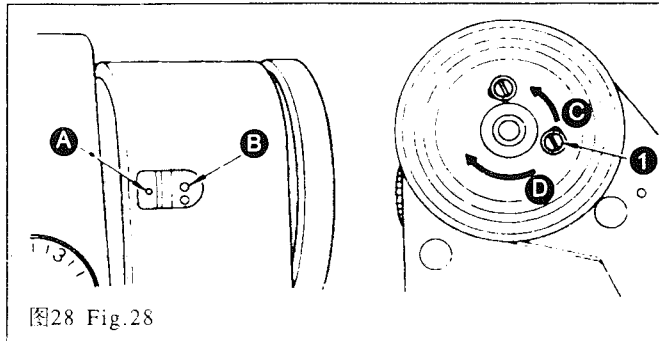
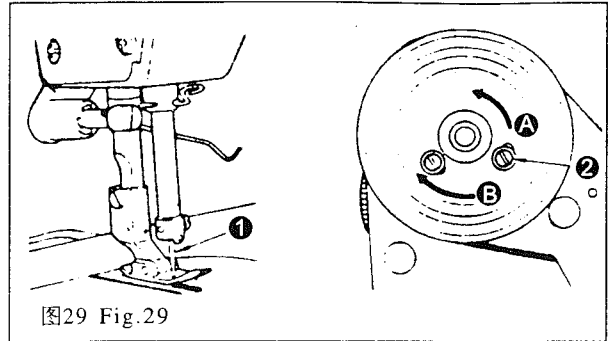

图28 Fig.28
图29 Fig.29
- 1) If the mounting position of the counter knife is moved in direction (A) from the standard mounting position, the thread length after thread trimming will be increased accordingly.
- 2) If the mounting position is moved in direction (B), the thread length will be decreased accordingly.
22. 停针位置的调整(图28、图29)
22. ADJUSTING THE NEEDLE STOP POSITION (Fig.28, Fig.29)